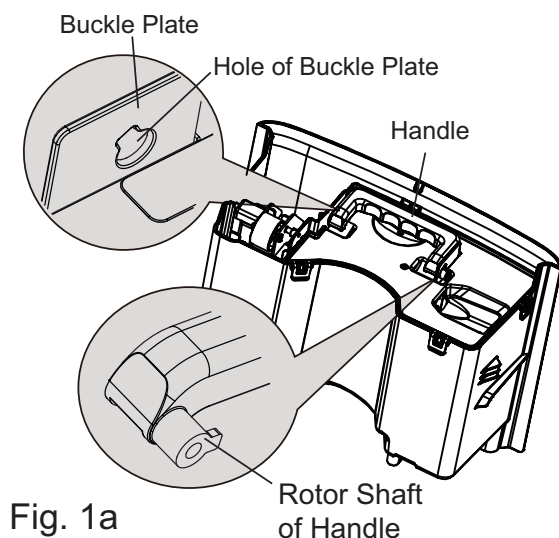

Fig. 1a
(1) Direct the rotor shaft of handle to the hole of buckle plate. Pull the bucket plate at the handle side by following the arrow direction. Remove the handle. (shown in Fig.1a, Fig.1b, Fig.1c)